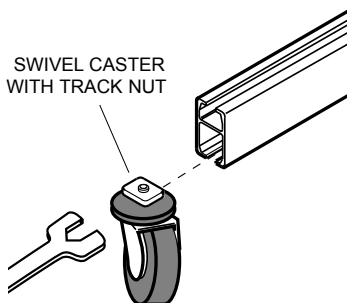

Figure 10
11. Mount Bin Bar to front of shelf with hex hd. bolts, washers and hex nuts supplied (Fig 10).
12. Install casters (Fig 10).